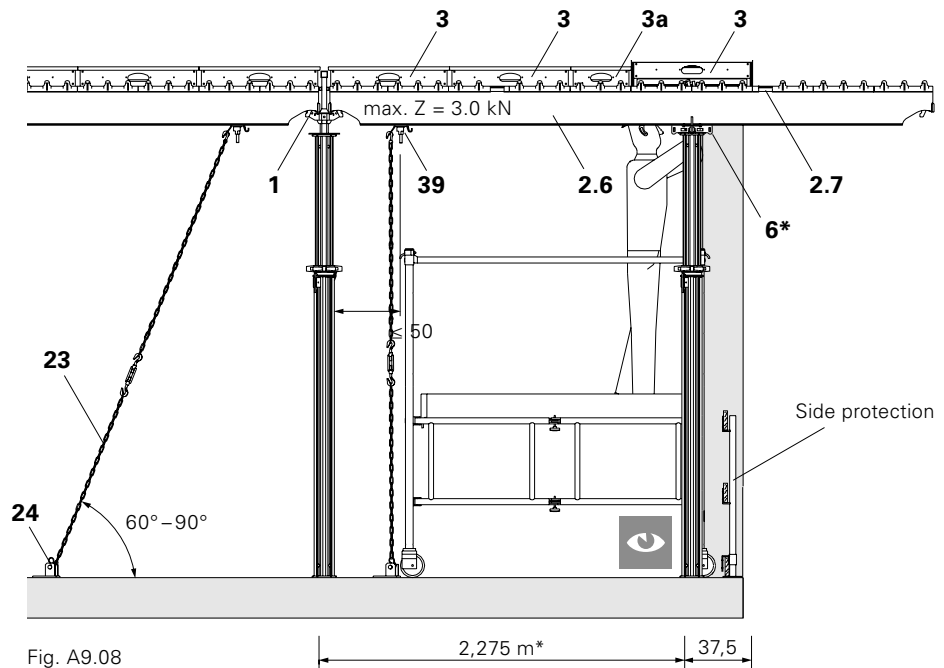

Fig. A9.08
1. Place prop with Drophead SFK (1) at slab edge and secure with tripod.
2. Connect Main Beam SLT 375 (2.6) and support by means of a second prop with Prophead SSK (6) after 2.275 m at the edge of the building. (Formed exclusively with prophead; position front prop at a distance of 2.25 m).
3. Mount Tension Sleeve SAO (39) in the main beam groove. Distance ≤ 50 cm from the non-cantilevered end.
4. Attach tension chain (23) with turn-buckle to the eye at the top, and anchor to the ground by means of a base plate (24). (Fig. A9.08)
5. From below, bay by bay immediately install 3 Panels 150 x 75 (3) and 1 Filler Panel 150 x 37.5 (3a) as far as the platform support (2.7) of the Main Beam SLT 375. For example, with the PERI Stripping Cart ASW 465.
- Are the props in line with the props of the corner table? (Fig. A9.08)